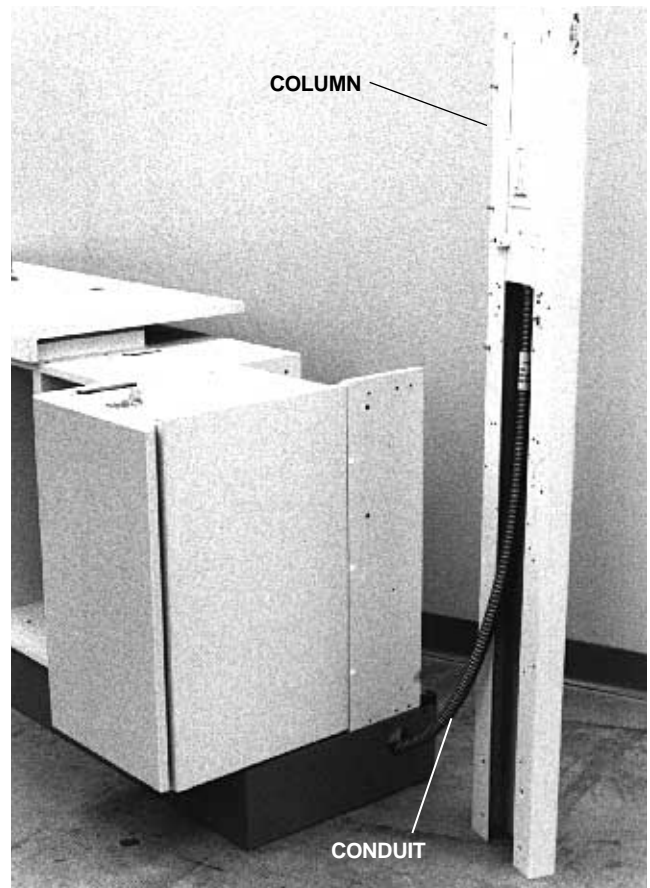

FIGURE 4
1. Remove the column from the packaging and place it at the appropriate end of the console. Channel the electrical conduit through the sub-base as shown in Figure 4.